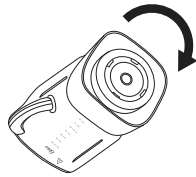

Fig. 9
2. Screw on the Jar nut by turning the Jar Wrench clockwise. (Fig 9) **DO NOT OVER TIGHTEN.**